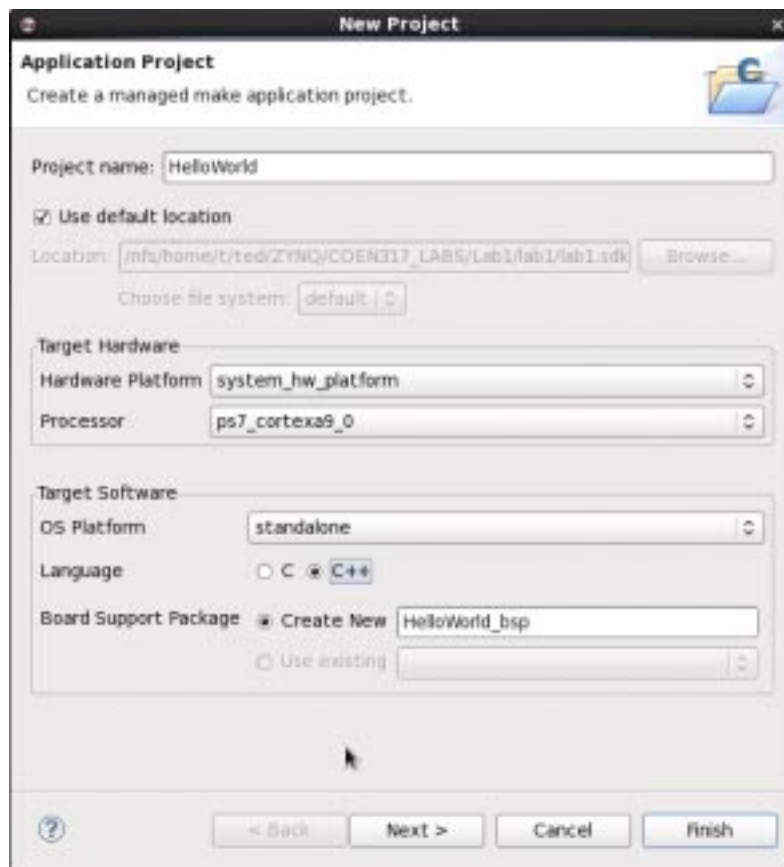

Figure 14: Specifying a new project.
7.2 In the New Project window, **specify a project name** (HelloWorld). You can choose either C or C++ as the programming language. **For the OS platform, select standalone**. Refer to Figure 14. Select **Finish** to continue. The New Project Template window will appear listing the Empty Application as the available templates. SDK will create an empty C++ program called main.cc which you may then modify. Select **Finish** to complete the project.